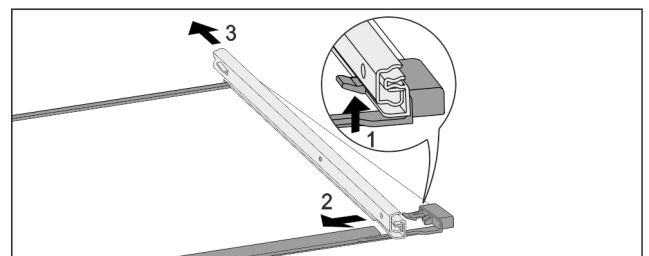

Fig. 174 Glass shelf with rails
- ▶ Push up front click-in hooks. Fig. 174 (1)
- ▶ Move the pull-out rails to the side Fig. 174 (2) and to the rear Fig. 174 (3).